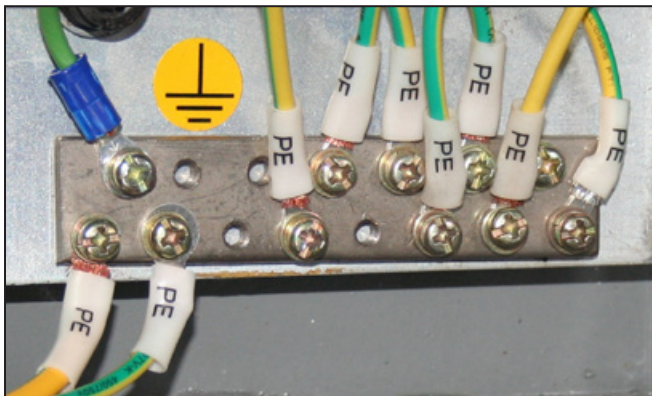
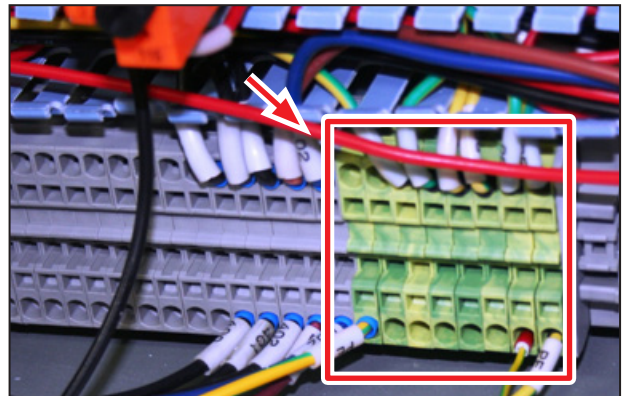

Figure 5
Figure 6
3. Older mills are equipped with a Ground Bar (see **Figure 5**), while newer mills have a green Ground Terminal Block (see **Figure 6**). Identify the ground connection specific to your mill and route green ground wire.
4. Based on ground connection identified in Step 3, either use pre-mounted ferrule for Ground Terminal Block connection (see **Figure 6**) or clip off Ferrule, strip wire back 1/4" and crimp on ring connector for Ground Bar connection (see **Figure 5**).
Ground Bar	1) Route ground wire via lower wire trough and connect to any Ground Bar terminal screw (see Figure 5).